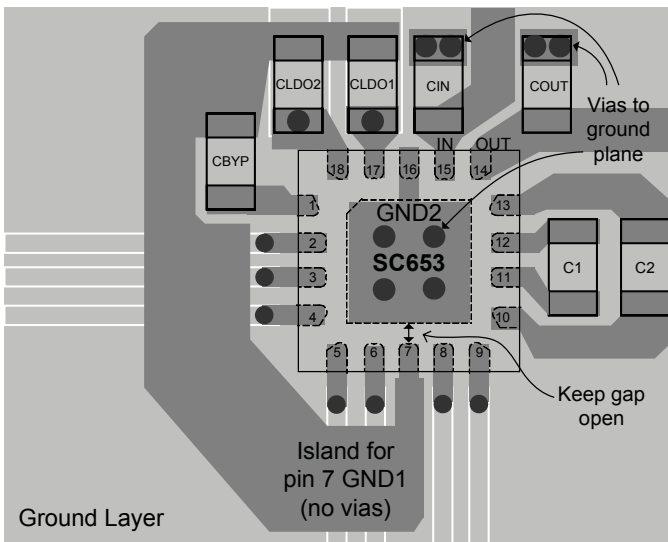

Figure 2 — Recommended PCB Layout
The layout diagram in Figure 2 illustrates a proper two-layer PCB layout for the SC653 and supporting components. Following fundamental layout rules is critical for achieving the performance specified in the Electrical Characteristics table. The following guidelines are recommended when developing a PCB layout:
- The following capacitors — CLDO1, CLDO2, and CBYP should be grounded together through an isolated copper island. Using no vias, connect the island only, to pin 7 as shown in Figure 2.